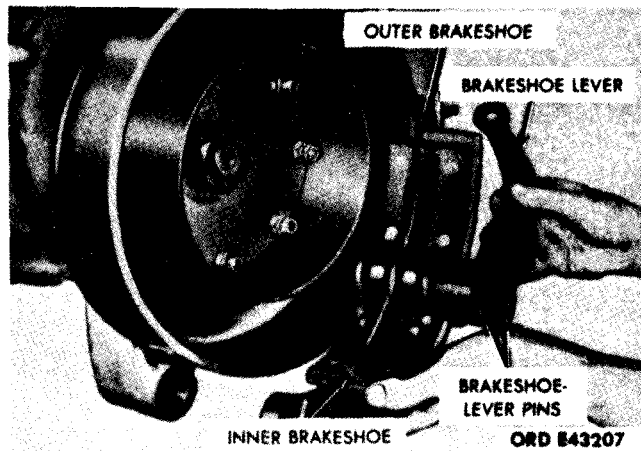

Figure 2-187. Removing handbrake shoe and lever assembly.
- (6) Remove the shoe anchor bolt from the bore at the lower end of the outer shoe.
- (7) Spread the inner and outer shoes (fig. 2-187), and remove the shoe and lever assembly from the brakedrum.
- (8) Remove the C washer from the front end of the two brakeshoe lever pins (fig. 2-187). Remove the inner and outer shoes from the pins.
- (1) Position the inner and outer brakeshoes (fig. 2-187) on the brakeshoe lever pins, and install the C washer at the front end of both pins.
- (2) Position the shoe and lever assembly on the brakedrum (fig. 2-187).